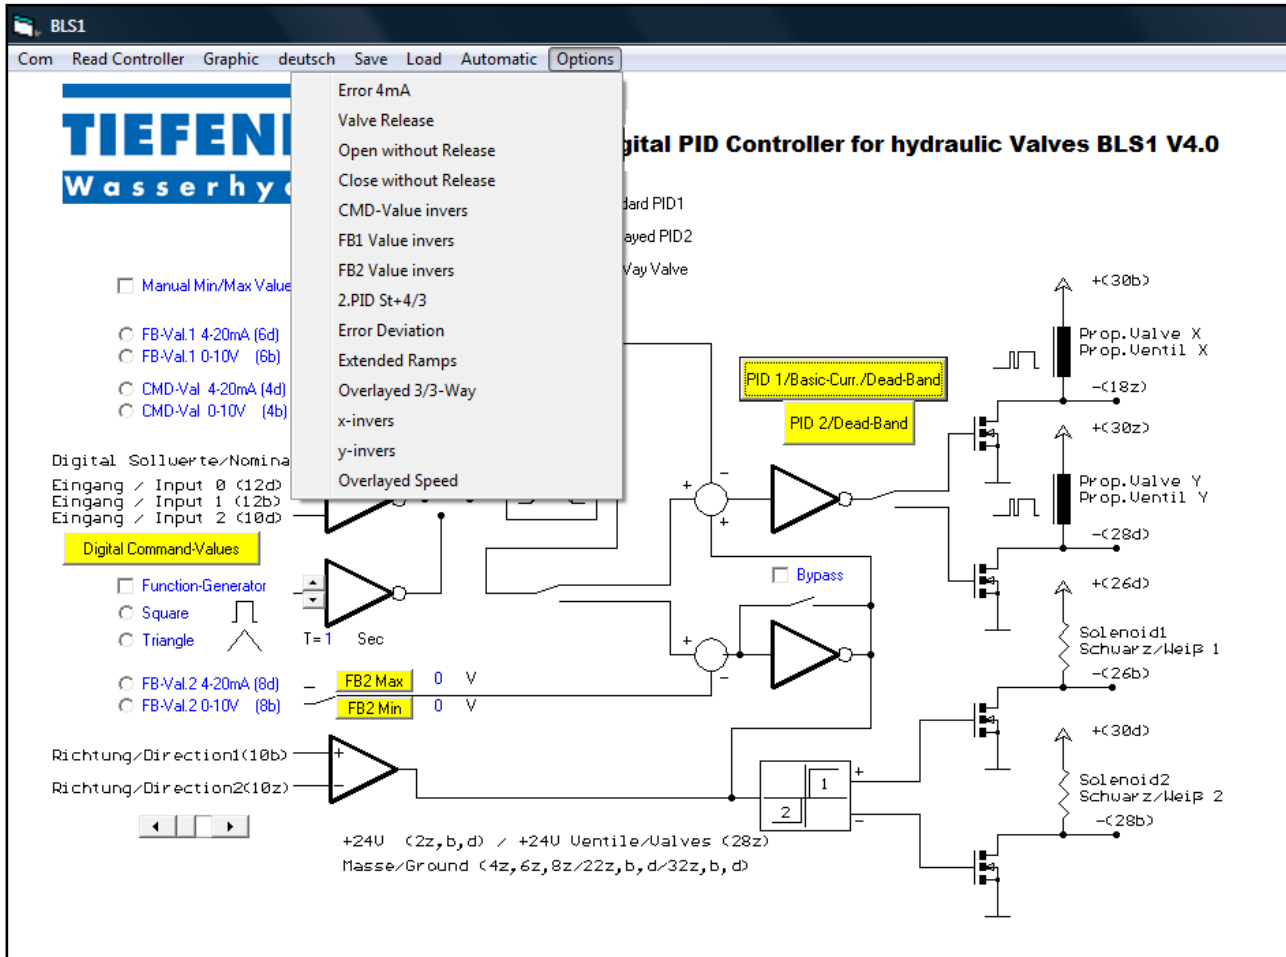
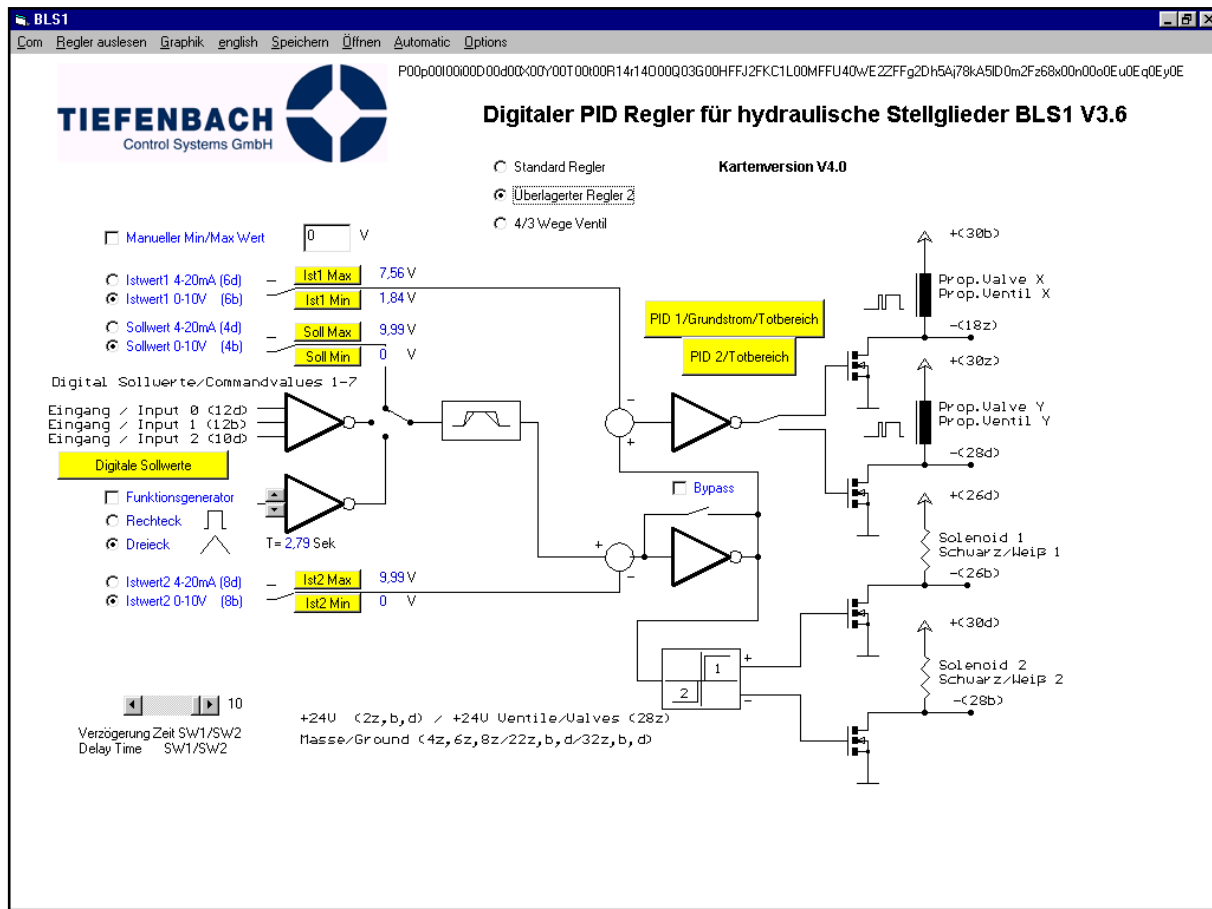

Fig. 6
Fig. 16
This function is only available when **Overlaid Mode** (see **Fig. 6**) is selected. The principle of operation is explained in the following paragraph.
Click on the option button Overlaped PID2 (see Page 9 and also Fig. 6) and a schematic representation of this operating mode will appear. (Fig. 16, above). The screen window contains all of the appropriate functions as well as the card rack pin numbers appropriate for the proper use of this mode.
2. Command Button PID 2 / Deadband. (see Fig. 16)